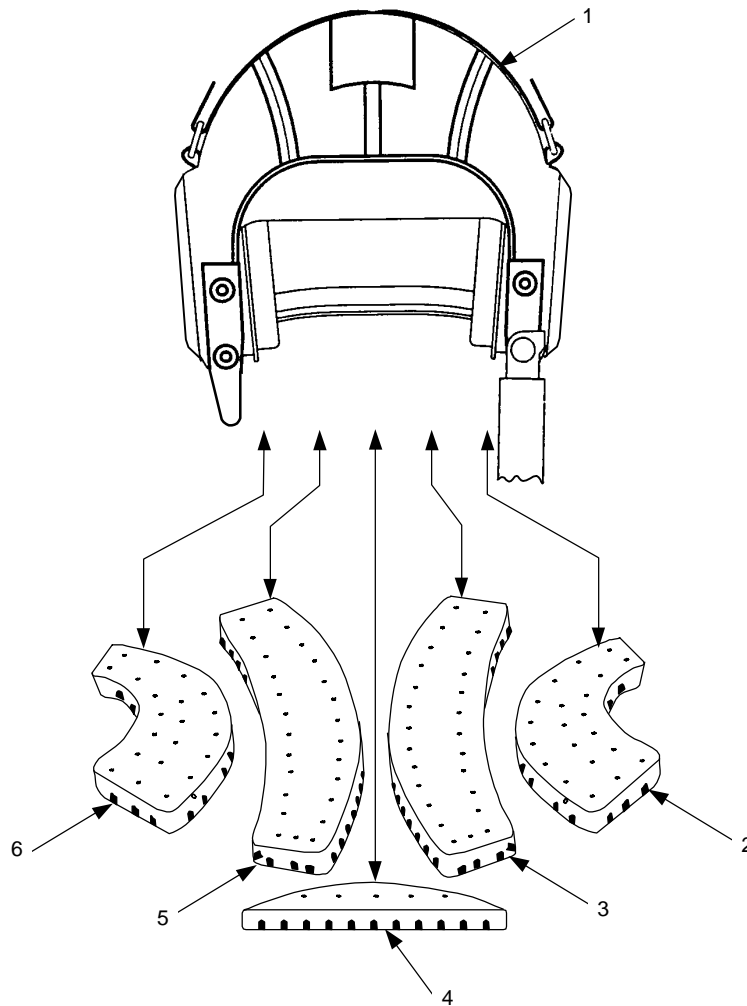

Figure 3-15. Helmet Liner Inserts
3.8.5 Helmet Liner Insert Removal and Replacement Procedures (Fig. 3-15)